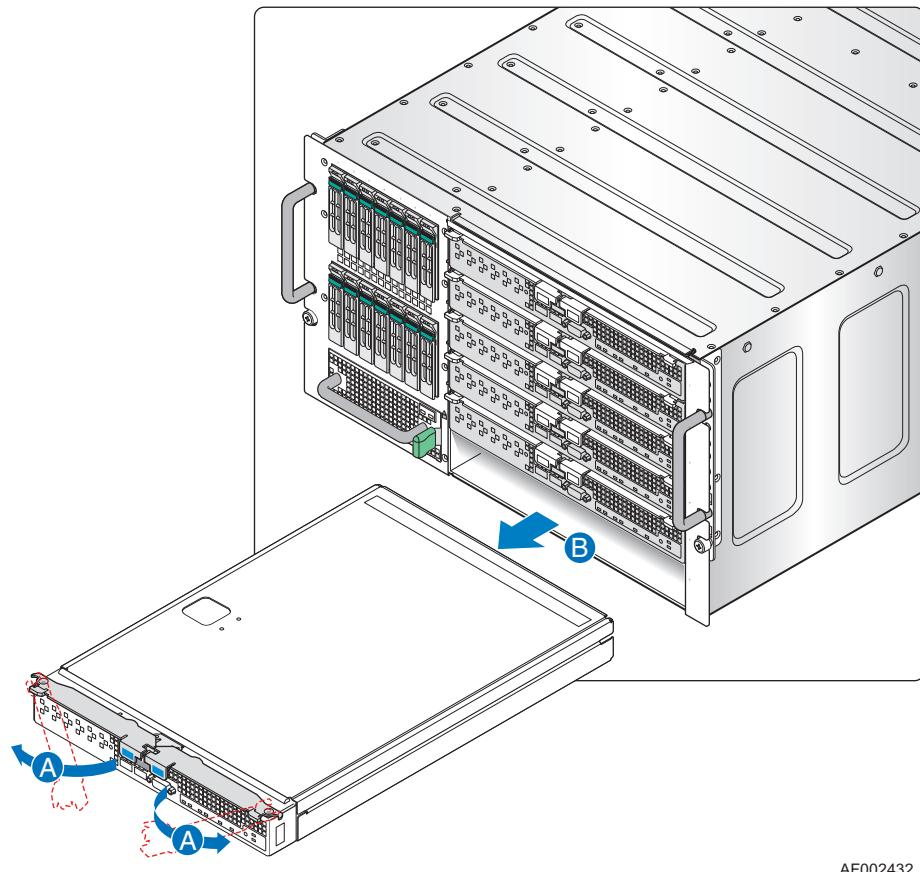

Figure 40. Removing an Intel® Compute Module
3. Open the two release handles at the front of the compute module (see letter "A" in Figure 40) and pull the compute module out of the server system (see letter "B" in Figure 40).